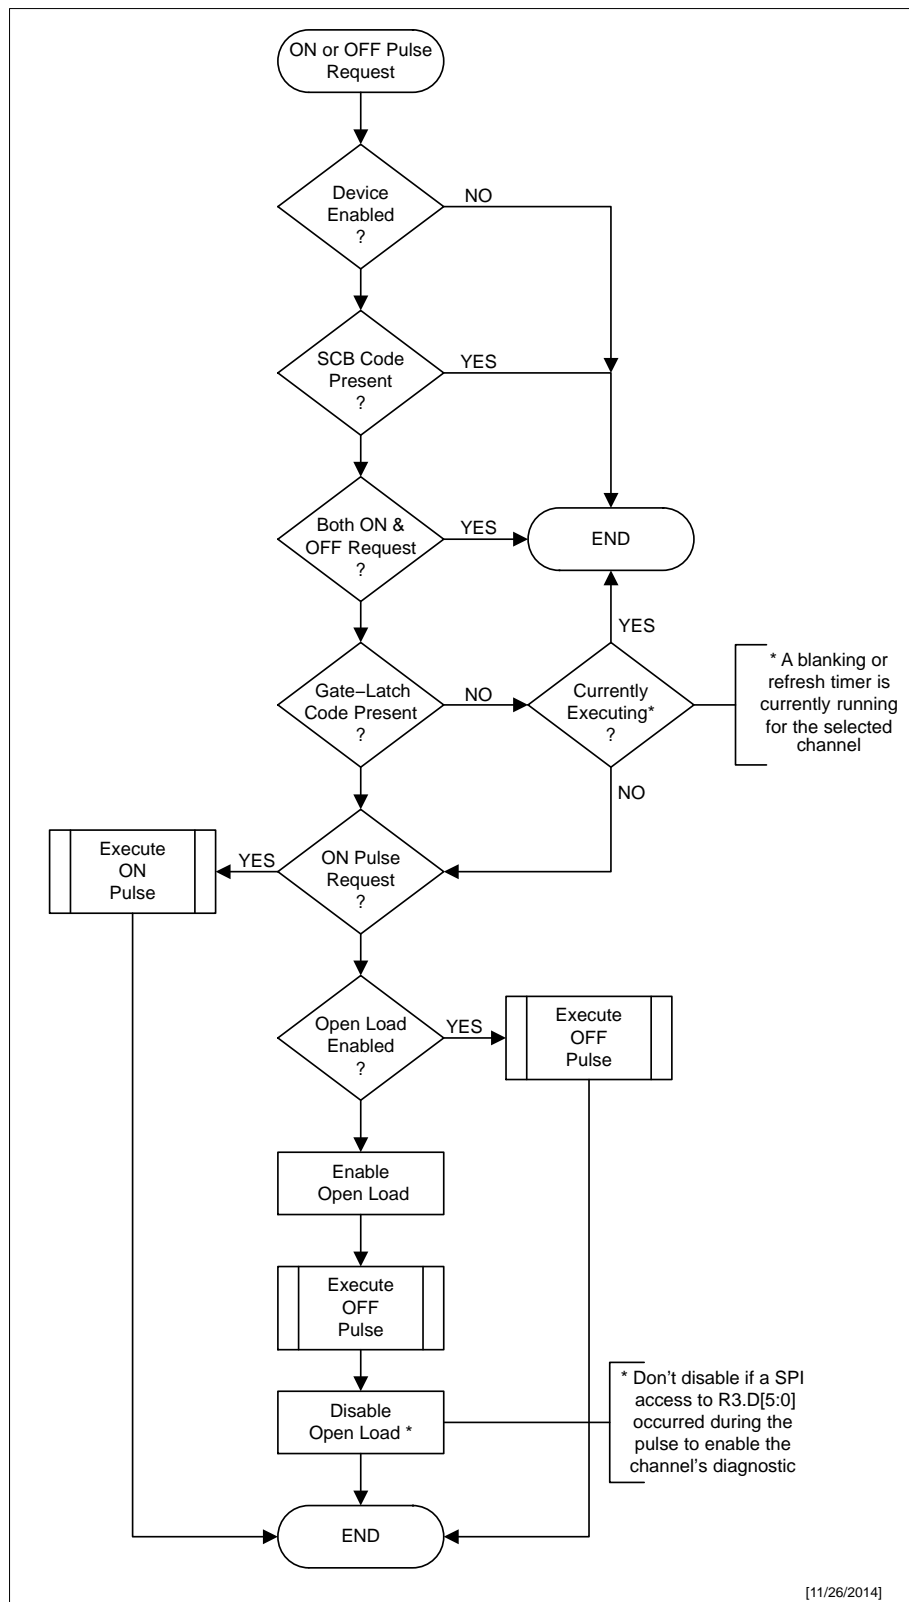

Figure 17. Pulse Mode Diagnostic Flowchart
When R1.NX = 1, the diagnostic ON pulse command is executed. The output changes state for the programmed tBL(ON) blanking period, and the diagnostic status is latched if of higher priority than the previous status. The output assumes the currently commanded state at the end of the pulse. A flowchart for the diagnostic pulse is given in Figure 17.